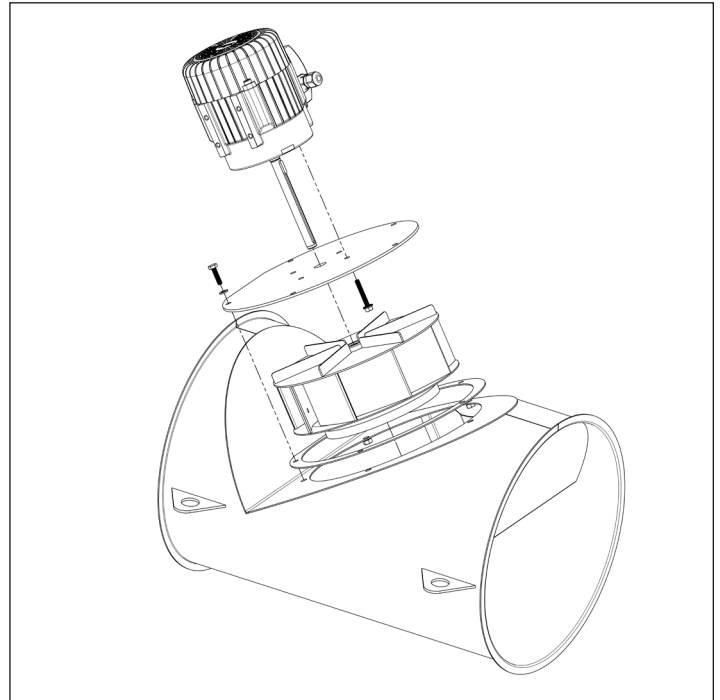

Fig 14
2. When power venter wheel no longer rotates, remove the bolts holding the motor drive unit in place and lift out the whole drive assembly. See Fig. 14.